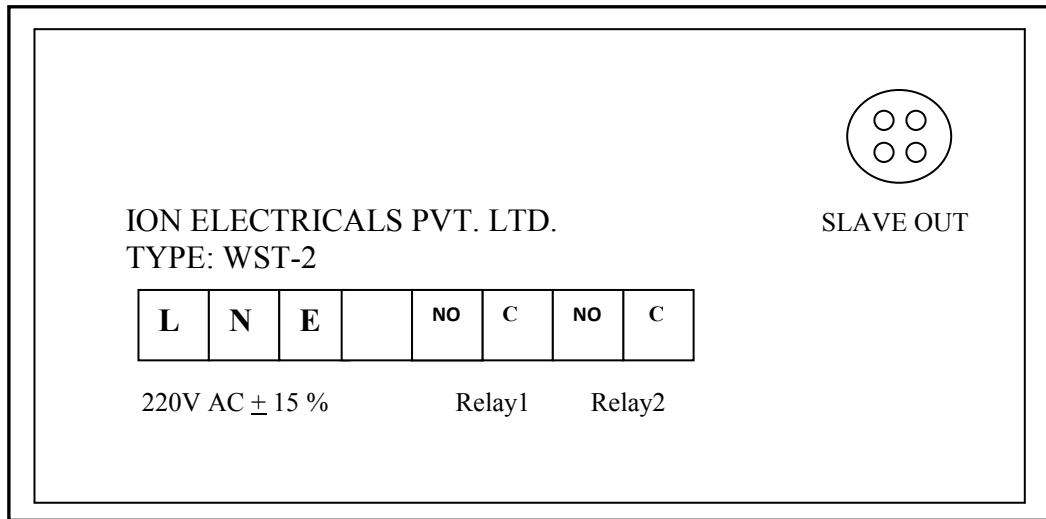

Figure 2: Back view of WEEKLY SETTABLE TIMER.
- As shown in the figure 2 ,two relays RELAY 1 & RELAY 2 are provided. To sound siren and lecture bells as per the scheduled time, they can be connected between the NO & C terminals of the relay.